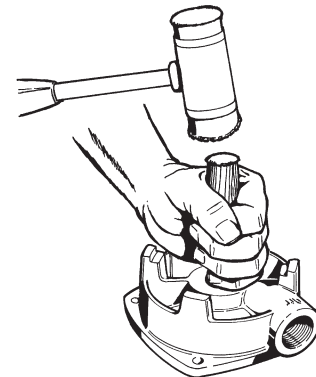

Figure 4-6
- 10. Remove the seat portion of the seal, Refer to Figure 4-6.